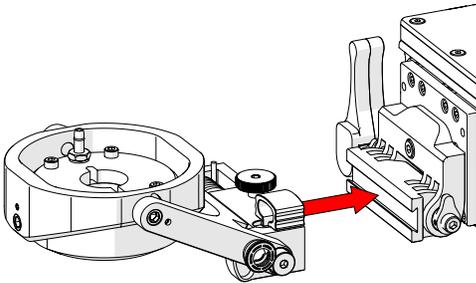

Fig. 66 - Attached to dovetail jaw
1. Align the dovetail jaw of the corrosion thickness probe holder (Fig. 66) and the pivot mount of the Raster Arm HT.